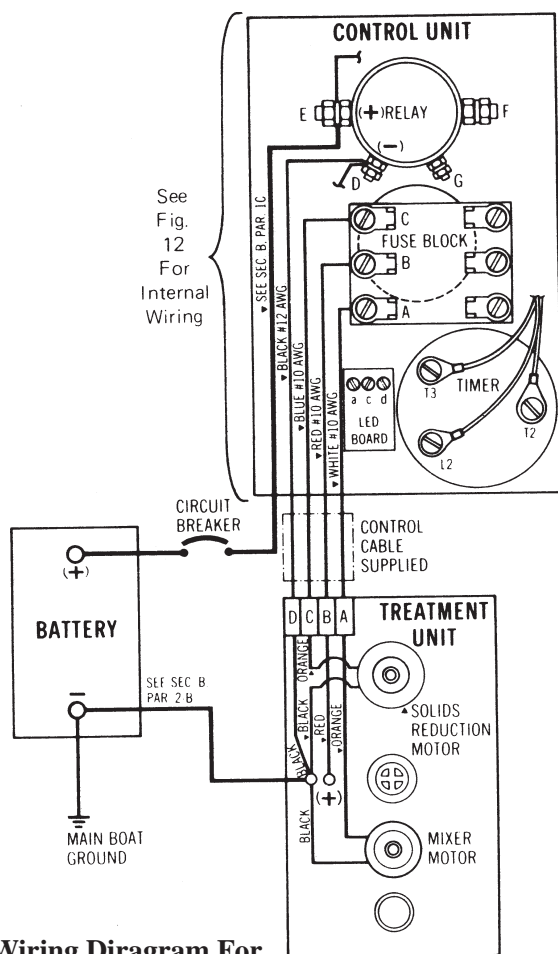

Fig. 6 Wiring Diagram For Negative Ground Boats Only
Secure the white wire of the control cable to the white terminal (A) on the fuse block, (see Fig. 6). Do likewise with the red wire (to terminal B) and the blue wire (to terminal C). Secure the black wire to terminal D of the relay. After all 4 wires are attached, secured and double-checked, tighten the strain-relief connector. Route the cable through walls, below deck, etc., to the treatment unit.
Bare one end of wire and crimp on a solderless ring connector for a 5/16" stud.\* Pass the wire and connector through hole #2 (Fig. 5) in the Control Unit and connect to Lug E of the relay (Fig. 6). Tighten the strain relief connector. The other end of the wire is routed to the area of the battery(ies) or power source and prepared for connection to a 60 Amp (12 volt) or 50 Amp (24 & 32 volt) circuit breaker or fuse, available from Raritan dealers or from the factory. From the circuit breaker or fuse, the same gauge wire is used to connect to the power source (Fig. 6).
- a) Remove terminal block cover (31-132) and cable clamp (31-111). Run control cable through cable clamp, then connect to terminal block. When connecting to terminal block, note that white wire goes to terminal A, red wire to terminal B, blue wire to terminal C and black wire to terminal D (Fig. 6). If terminal ends are not already crimped onto cable, crimp supplied terminals onto cable, using a quality crimping tool (see earlier footnote). Reposition and secure cable clamp; replace terminal block cover. **NOTE: If control cable is too long (and terminals are not already crimped on), it may be cut, ends stripped and terminals crimped onto shortened cable. If terminals are already crimped onto cable, coil extra cable and secure it in an out-of-the-way area.**
B. Improper Wiring	B1. Check wiring; compare with Figs. 6 & 12.
C. Faulty Control Unit Timer	C1. Check for proper voltage between terminal T2 on the timer and D on the relay (see Fig. 6). C2. If voltage reading is OK, activate timer and check for voltage between L2 on the timer and D on the relay. If no reading, replace timer. C3. Check for voltage between T3 on timer and D on relay with unit in treatment cycle. If none, replace timer.